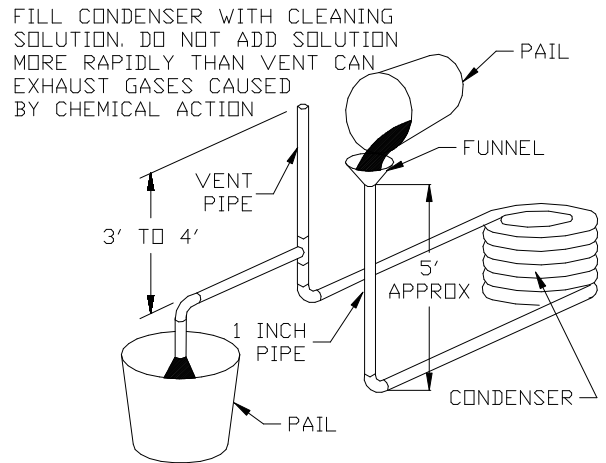

FIGURE 9 - GRAVITY FLOW METHOD
GRAVITY FLOW METHOD (Figure. 9) -
2. Fill condenser as shown in figure 9. Follow acid manufacturer's instructions. When condenser is full, allow solution to remain overnight